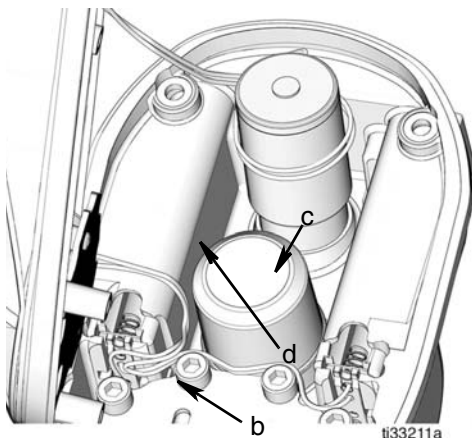

FIG. 7
- Route the red and black power wires (b) between the central valve boss (c) and the battery compartment (d) and under the foam retainer (FIG. 7).